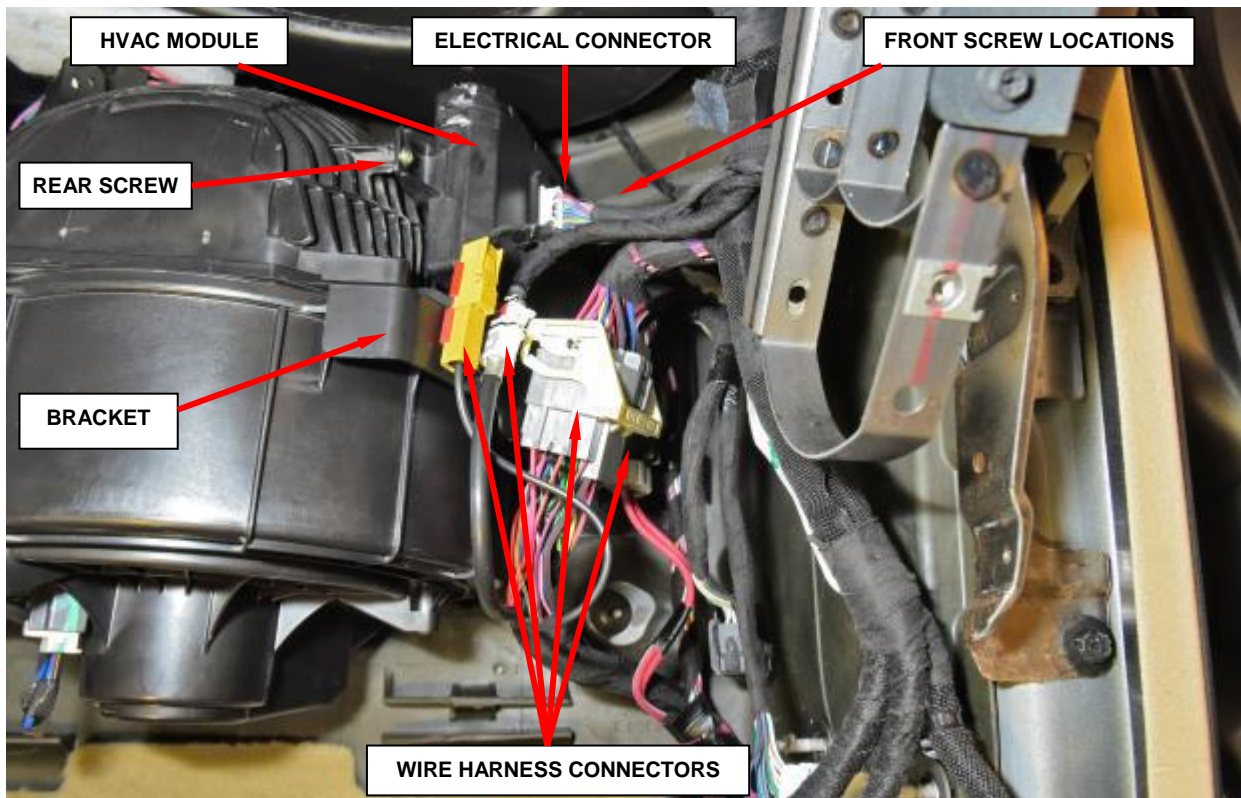

Figure 22 – HVAC Module
7. Disconnect the electrical connector from the HVAC module, located on the air inlet housing (Figure 22).
8. Release the wire harness connectors from the bracket (Figure 22).
9. Loosen the two screws that secure the front of the HVAC module to the air inlet housing (Figure 22).
10. Remove the one screw that secures the rear of the HVAC module to the air inlet housing (Figure 22).